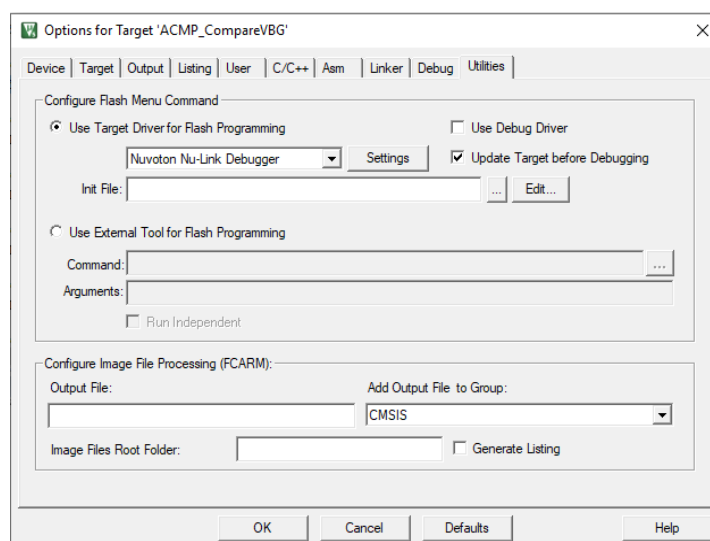

Figure 5.2-15 Keil MDK Programmer Selection
- (5) Invoke **Project** → **Options for Target** → **Utilities**, select “**Nuvoton Nu-Link Debugger**” when the **Use Target Driver for Flash Programming** option is enabled, and then select the **Update Target before Debugging** option, as shown in Figure 5.2-15.